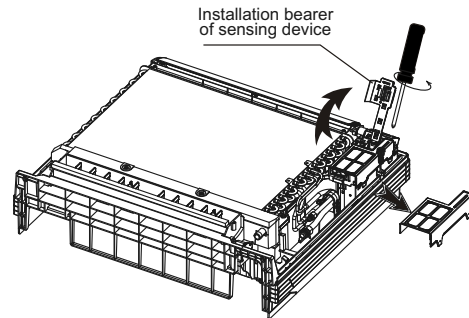

Fig.50-10
- The installation bearer of sensing device rotated to another side, and then takes off cover of electrical box. (Take off the electrical box if the capacity is 18000btu/h as well as using network function.) (Refer to Fig.50-10)